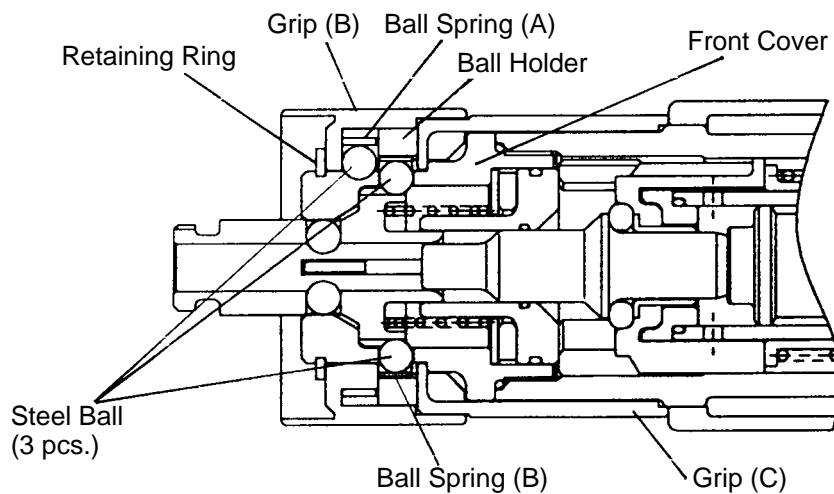

Fig. 12
When the Retaining Ring D40 **[3]** is removed by means of the snap ring remover, Grip (B) **[4]**, Ball Spring (A) **[5]**, Steel Ball D7.0 **[9]** (3 pcs.), Ball Holder **[7]**, Ball Spring (B) **[6]** and Grip (C) **[8]** can be removed from the Front Cover **[10]**. (Fig. 12)